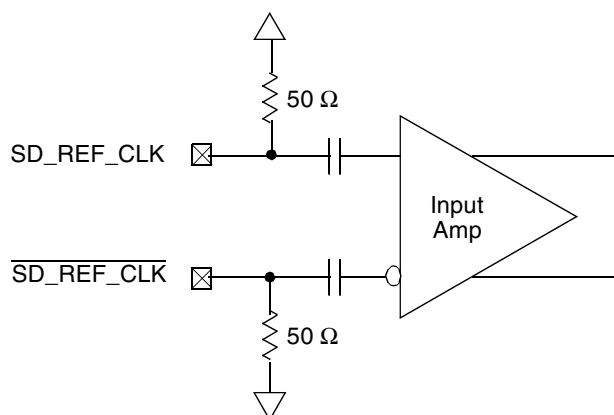

Figure 40. Receiver of SerDes Reference Clocks
Figure 40 shows a receiver reference diagram of the SerDes reference clocks.
- The SD_REF_CLK and $\overline{\text{SD_REF_CLK}}$ are internally AC-coupled differential inputs as shown in Figure 40. Each differential clock input (SD_REF_CLK or $\overline{\text{SD_REF_CLK}}$) has a 50- Ω termination to SCOREGND followed by on-chip AC-coupling.